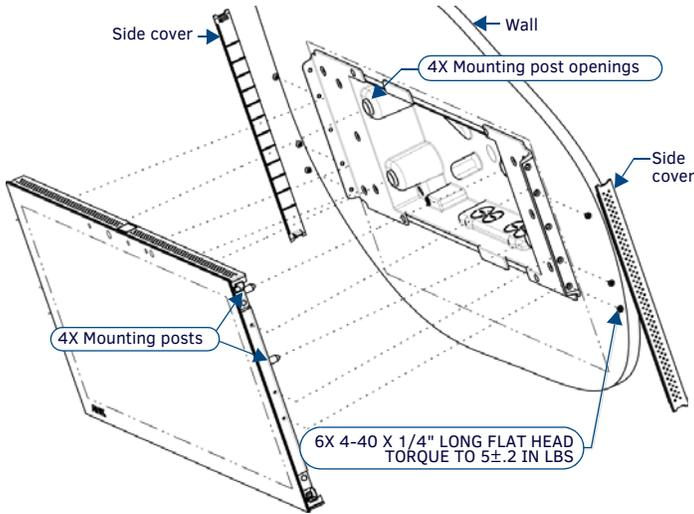

FIG. 5 MXD-2001-PAN INSTALLATION (LANDSCAPE)
- Insert the four temporary mounting posts of the panel into the openings on the Backbox and slide the panel onto the Backbox. This will temporarily hold the panel during the rest of the installation (FIG. 5).
- Use the six provided screws, three at each end, to secure the touch panel to the Backbox (FIG. 5). Use only the provided screws, as other screws may damage the touch panel.